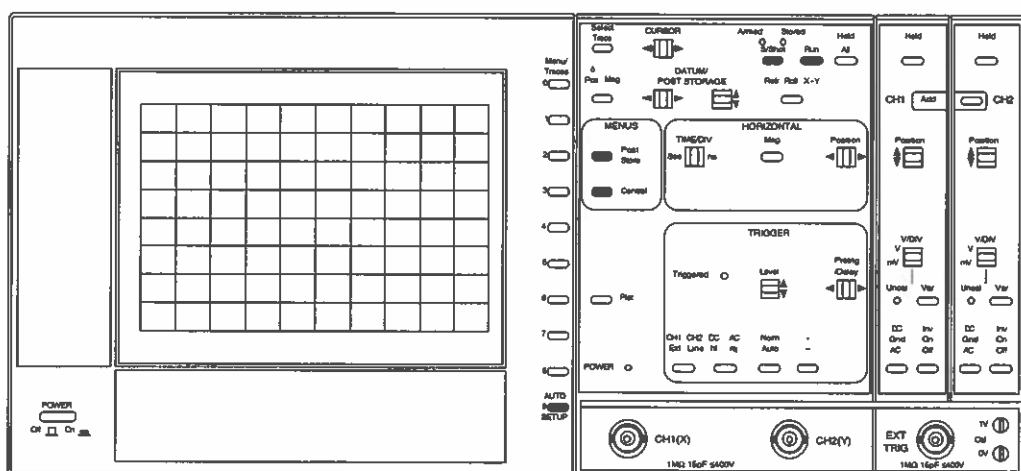

Figure 1.2a Single Function Buttons
Single action buttons have only one function: when pressed, that one function will be activated e.g. AUTO SETUP (17). See figure 1.2a.